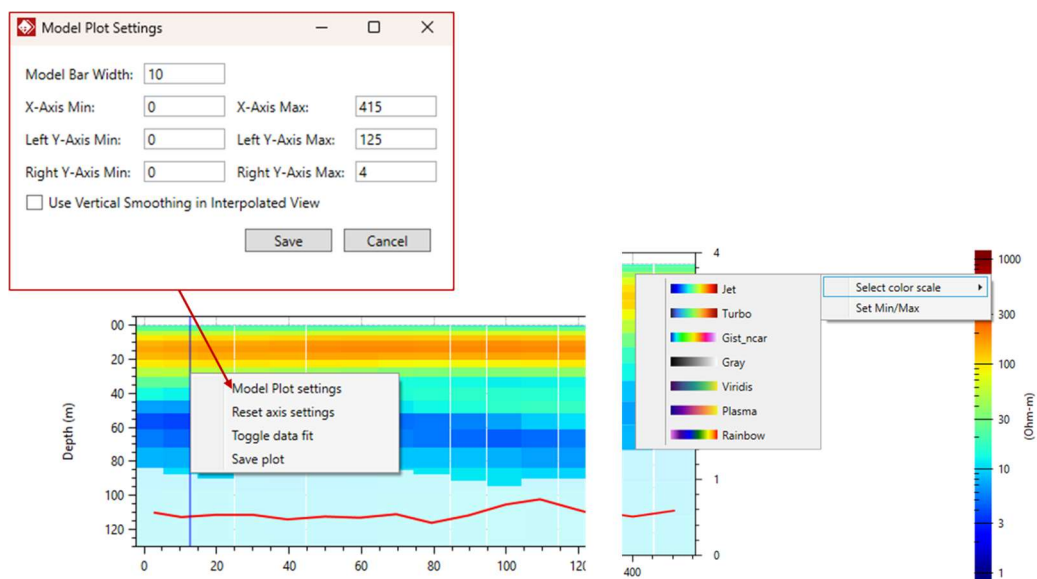

Figure 10: Customizing model plot and color scale settings
- To do this, right-click on either element and select the settings you want to modify (Figure 10).